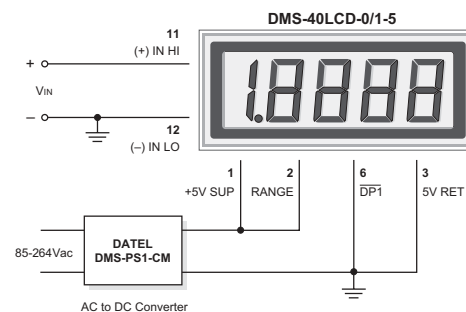

Figure 2. Single-Ended Input Configuration
- 1. Single-Ended Input Configurations:** True single-ended measurements can only be made with 5V-powered meters. The circuit of Figure 2 avoids problems normally associated with ground loop currents. Separate ground runs should be used for 5V RETURN (pin 3) and (-) INPUT LO (pin 12).